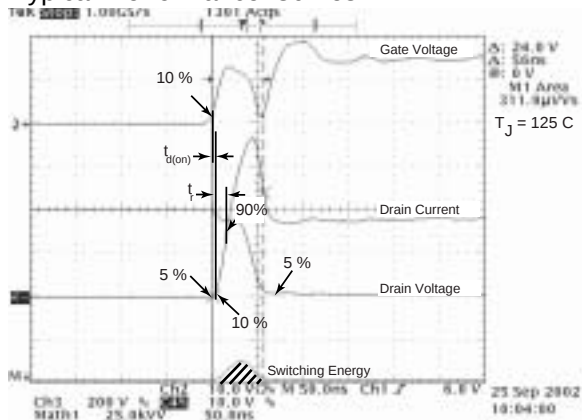

Figure 18, Turn-on Switching Waveforms and Definitions
① Repetitive Rating: Pulse width limited by maximum junction temperature
② Pulse Test: Pulse width < 380 μs , Duty Cycle < 2%
③ See MIL-STD-750 Method 3471
④ Starting $T_j = +25^\circ C$, $L = 9.80mH$, $R_G = 25\Omega$, Peak $I_L = 14A$
⑤ dv/dt numbers reflect the limitations of the test circuit rather than the device itself. $I_S \leq -I_D 14A$ $di_S/dt \leq 700A/\mu s$ $V_R \leq V_{DSS}$ $T_j \leq 150^\circ C$
⑥ E_{on} includes diode reverse recovery. See figures 18, 20.